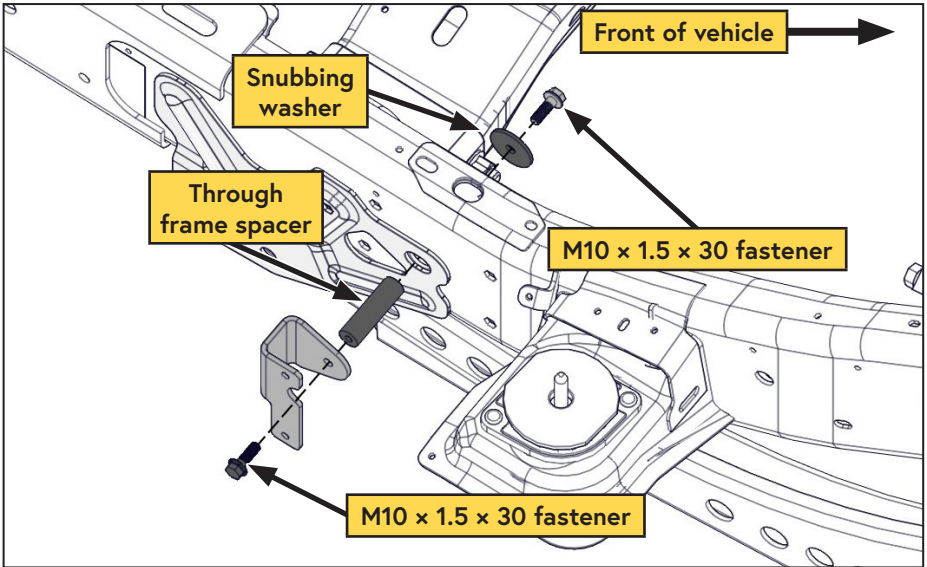

Figure 44 — Installing the AOST
- Insert one of the M10 × 1.5 × 30 fasteners into the bracket and thread the through frame spacer onto it. Using the remaining M10 fastener and snubbing washer, mount the front tank bracket to the vehicle frame (Figure 44).